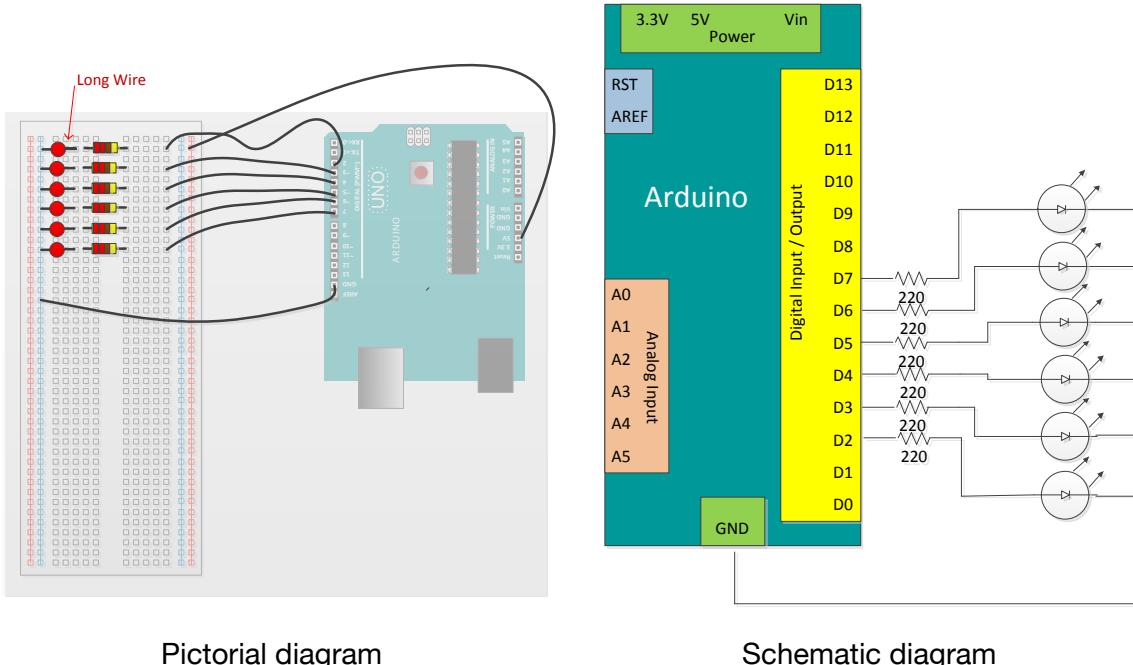

Figure 4-7. Pictorial and schematic diagrams of LED connections to the Arduino.™
1. Connect the Arduino™ to a set of six LEDs and resistors as shown in Figure 4-7.